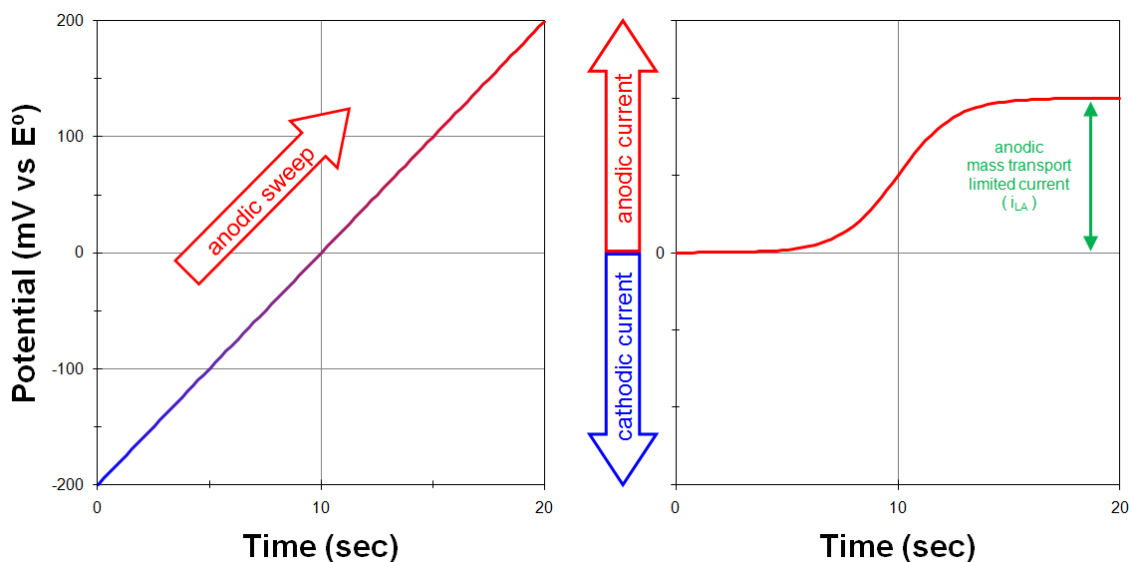

Figure 10-2. Response to a Potential Sweep (Anodic) from a Solution Initially Containing only the Reduced Form (R) with no Oxidized Form (O)
Next, the electrode potential is slowly swept in the positive (anodic) direction (see Figure 10-2, left) and an anodic current is observed (see Figure 10-2, right). The anodic current eventually reaches a maximum value when the potential is sufficiently positive relative to the standard electrode potential. At this point, any of the reduced form (R) that reaches the electrode surface is immediately converted to the oxidized form (O):